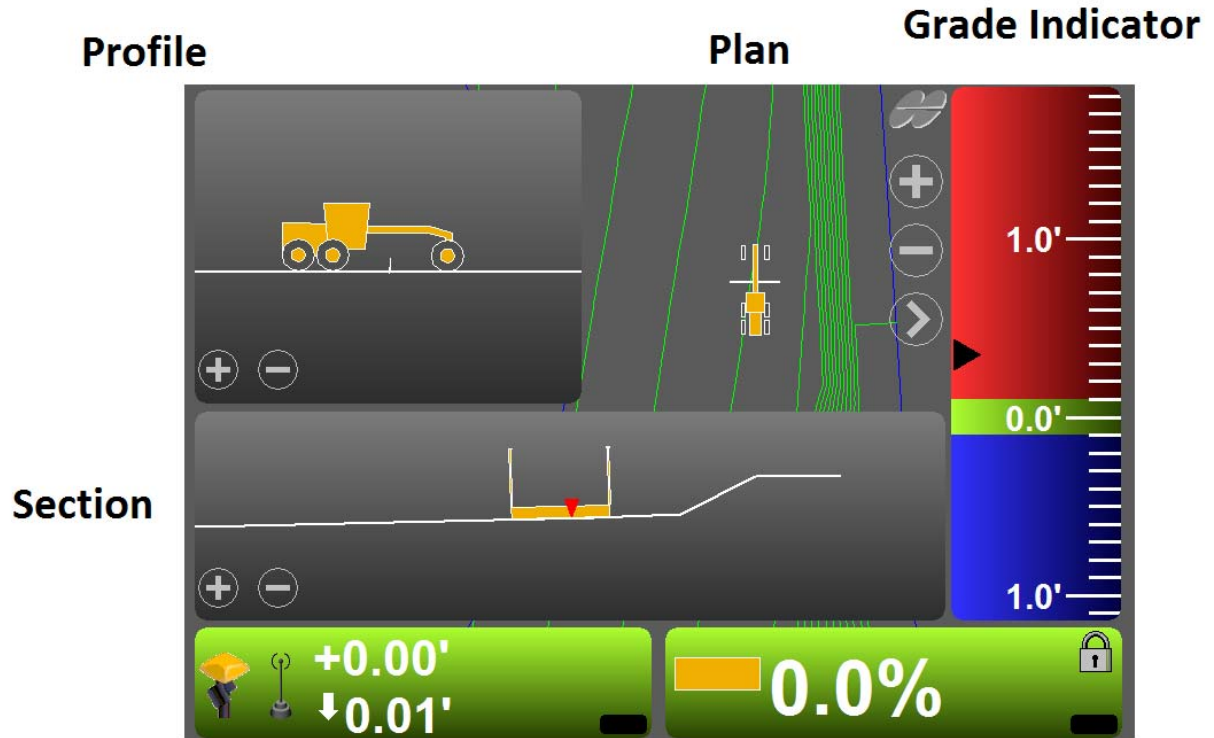

Figure 98: View Types
2. Select the desired window and view type (Figure 98).